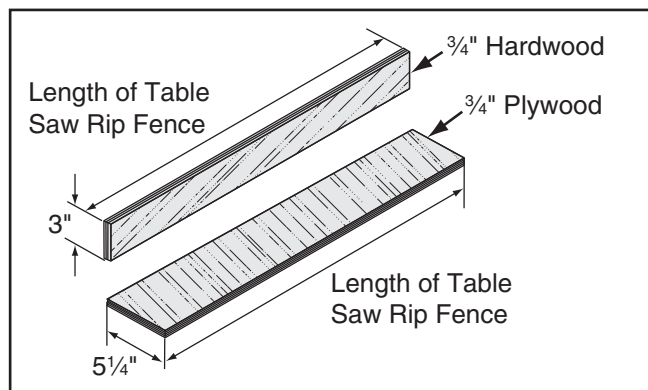

Figure 81. Auxiliary fence dimensions.
1. Cut a piece of $\frac{3}{4}$ " thick plywood $5\frac{1}{4}$ " wide and as long as your table saw fence; cut a piece of $\frac{3}{4}$ " thick hardwood 3" wide and as long as your table saw fence, as shown in **Figure 81**.